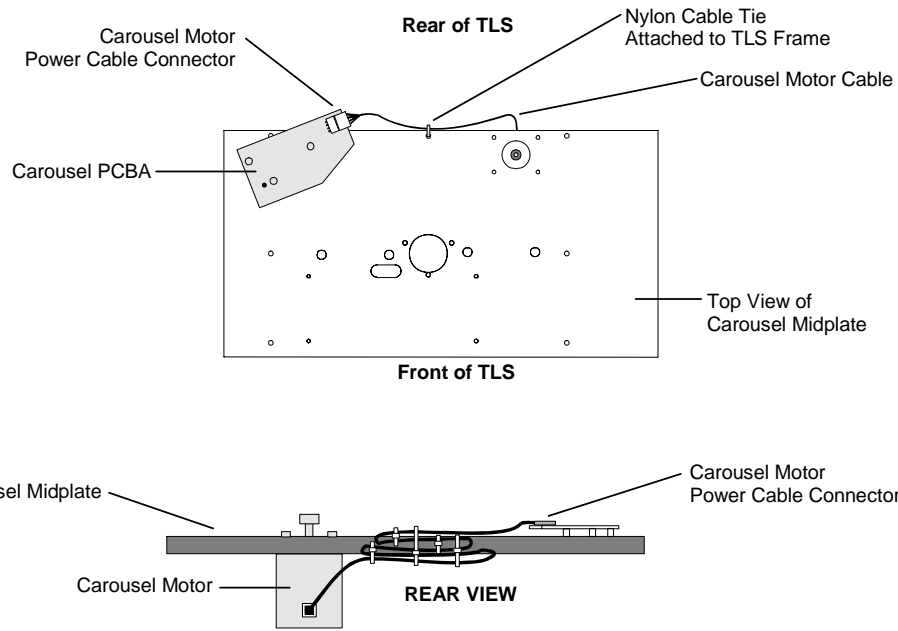

Figure 9-5 Carousel PCBA Installed on Midplate
2. Detach the Carousel Motor Cable from the Carousel PCBA (Figure 9-5).